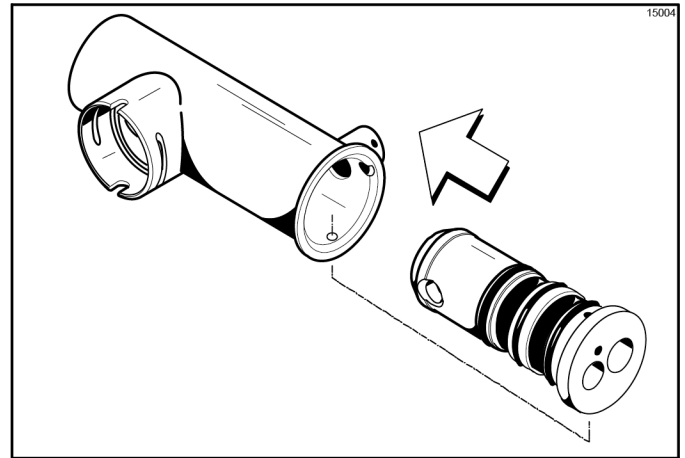

Figure 6-22
6. Insert the assembled piston and liquid valve body into the pump cylinder and push upward. Align the steel button at the base of the valve body with the cut-out groove at the bottom of the pump cylinder. (See Figure 6-22.)